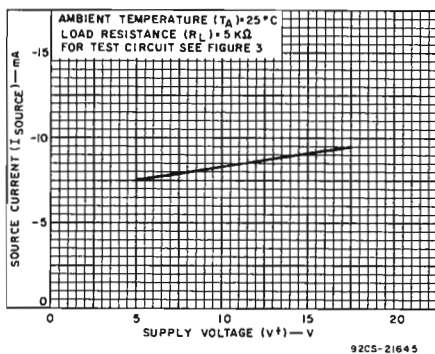

Fig. 11 — Source current vs. supply voltage.
- High voltage gain (see Fig. 11). up to 53 dB (typ.) per COS/MOS stage